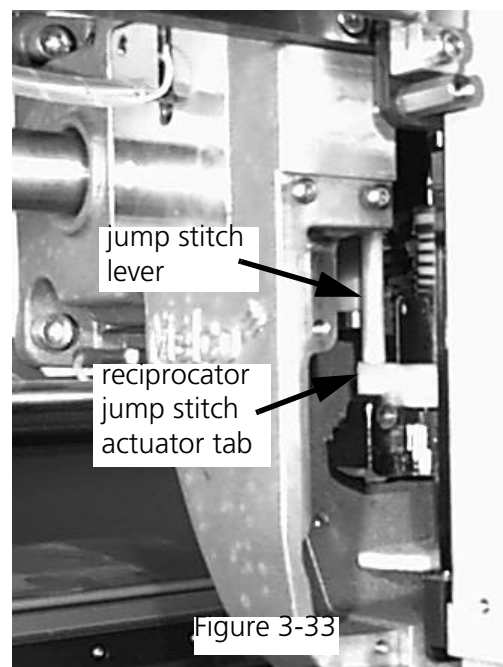

Figure 3-33
4. Install the new jump stitch assembly into the head by carefully maneuvering it into position with the jump stitch lever to the right side of the jump stitch actuator tab (see Figure 3-33).